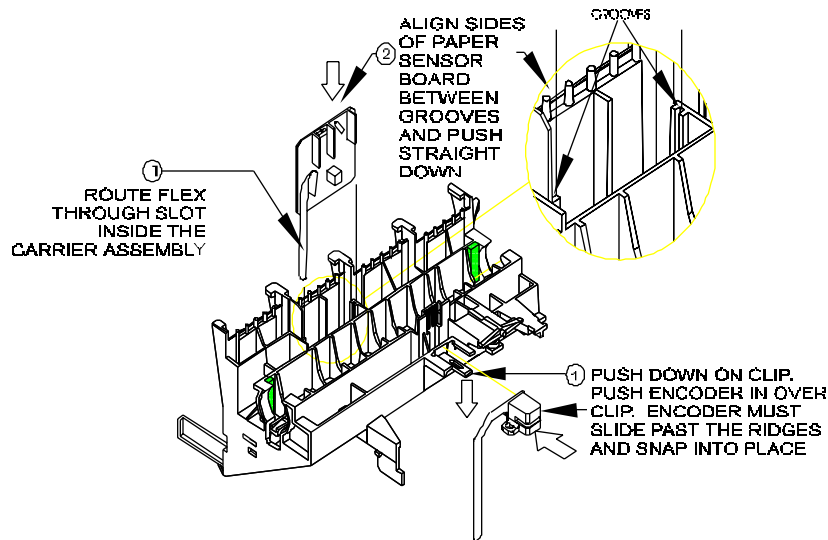

Figure 5-9. Paper and Encoder Sensor Installation.
- c. Grasp the Paper Sensor between thumb and index finger and guide the sides of the board into the grooves on each side of the opening. See Figure 5-9.